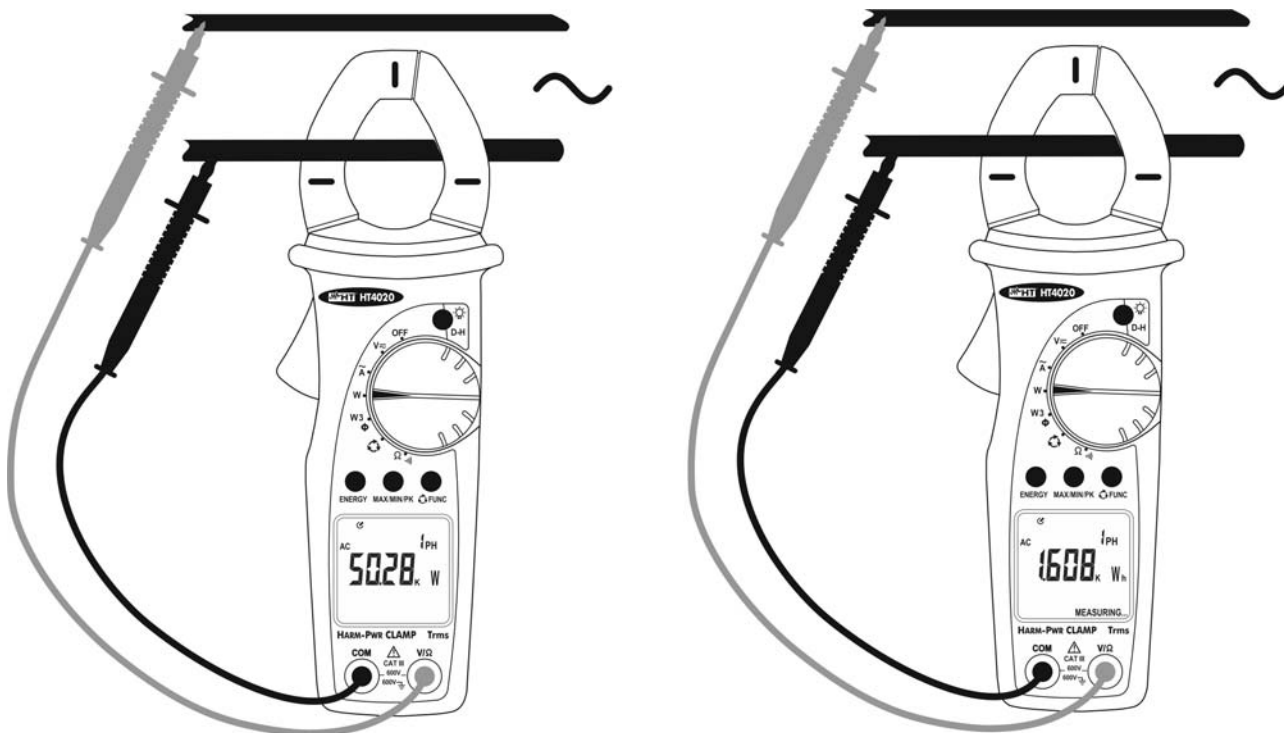

Fig. 11: Use of instrument for power/energy measurement on single phase system
2. Open the jaws and clamp only one cable. Pay attention to the alignment marks (see § 4.1.2. and Fig. 11)
4. Connect the test leads to the circuit under test (see Fig. 11). The measured active power value is displayed